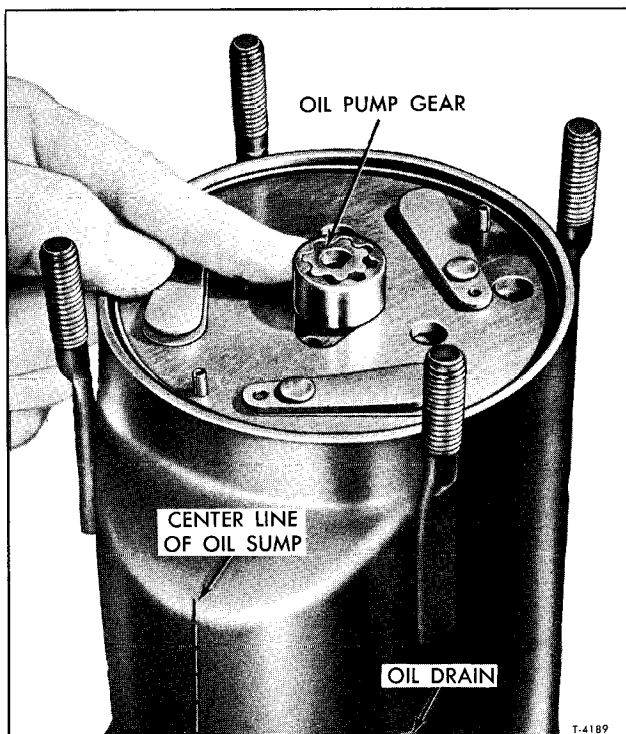

Figure 48—Proper Oil Pump Gear Positioning
- Facing the centerline of the sump and viewing from the sump side (bottom) of the compressor, move the OUTER gear toward the right (side having the oil drain fitting) until it is at approximately 90° (3 o'clock position) from the centerline of the oil sump (figure 48).